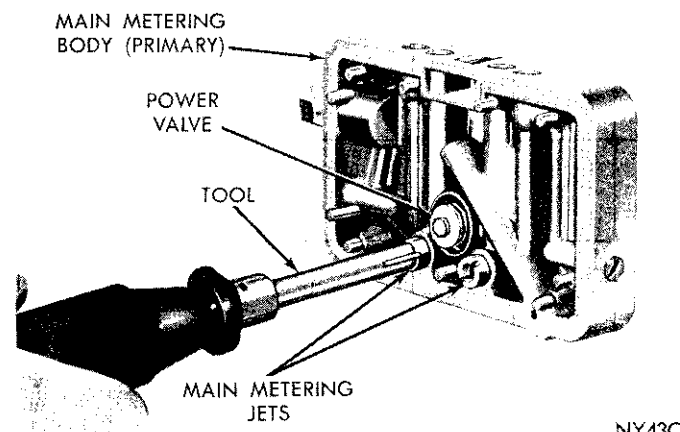

Fig. 8—Removing or Installing Main Metering Jets
- (2) Using Tool C-3748, remove main metering jets. (Fig. 8).
- (3) Remove idle adjusting needles and gaskets.
- (4) Turn idle limiter caps to stops. Remove caps by
(3) Install main metering jets (Fig. 8), using Tool C-3748. Tighten securely.